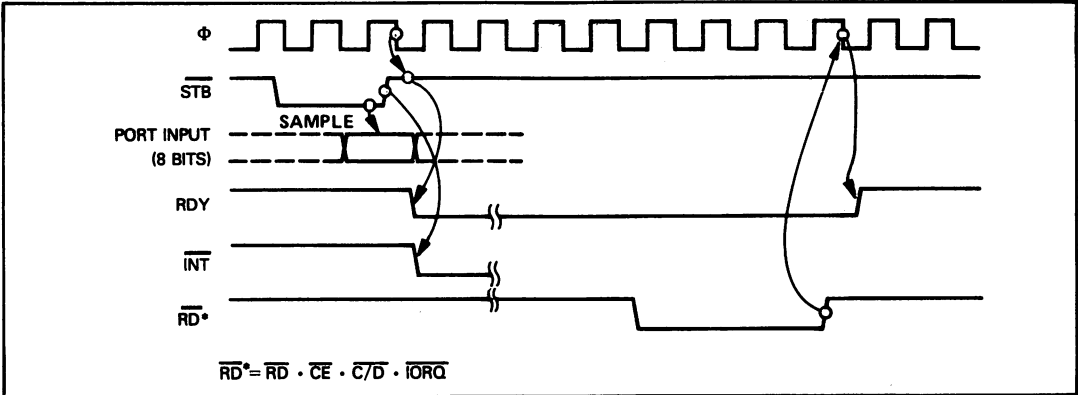

Figure 7-19. Mode 1 (Input) Timing
**Timing for input mode (Mode 1) is illustrated in Figure 7-19.** External logic initiates an input cycle by pulsing  $\overline{STB}$  low. This low pulse causes the Z80 PIO to load data from the I/O port pins into the port Input register. On the rising edge of the  $\overline{STB}$  pulse an interrupt request will be triggered.